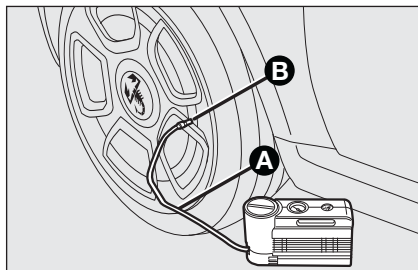

fig. 13
- **Ensure that the handbrake is up.** Remove the tyre valve cap, extract the flexible filler tube **A-fig. 13** and fasten the ring **B** onto the tyre valve;